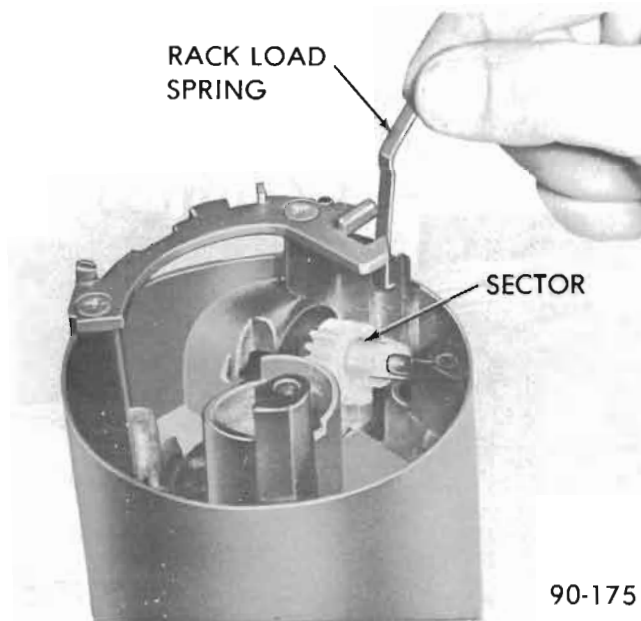

Figure 90-91 Removing or Installing Load Spring
18. Remove the load spring. See Figure 90-91.
3. Insert the rack spring in the housing from the bottom side. The long section should be toward the steering wheel and hook on the edge of the housing. See Figure 90-91.